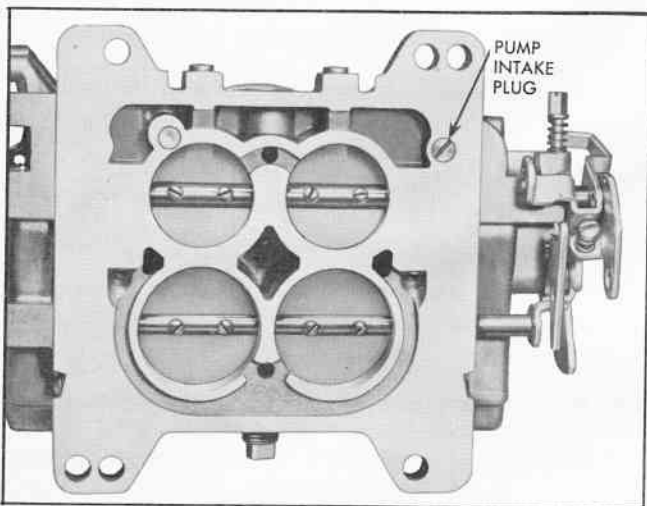

Fig. 14 Location of Pump Intake Screw Plug
16. With body inverted remove pump intake screw plug (Fig. 14). Remove pump intake check ball seat, found under plug and remove check ball.